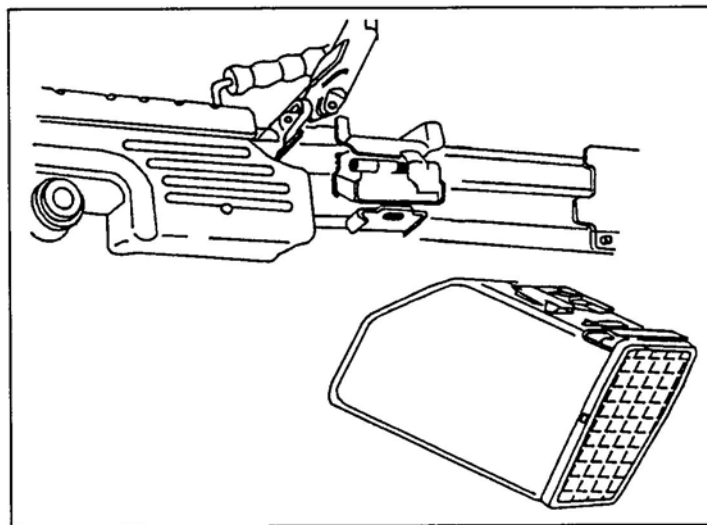

Figure 3. Attachment of the ammunition box.
5. Attach the ammunition box with linked 5.56-millimeter (mm) ammunition to the underside of the receiver. To do so, align the box latch with the dovetail on the receiver (Figure 3). Pull outward on the ammunition box to make sure the aligning box latch engages.